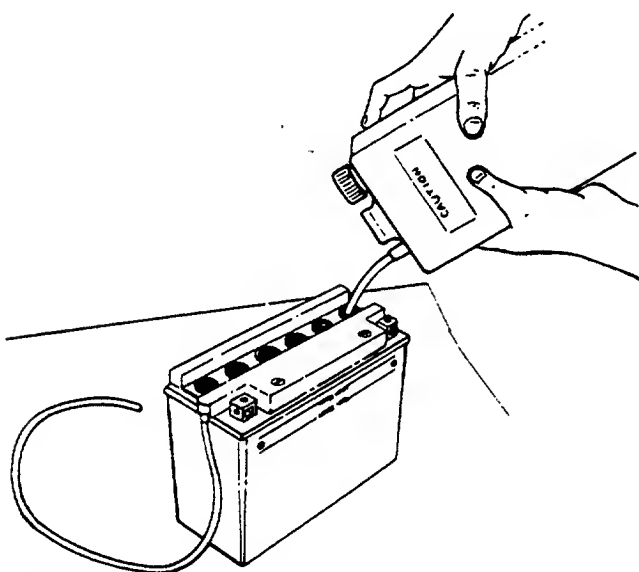

FIGURE 3.
6. Fill each battery cell slowly and carefully to the **UPPER LEVEL** line marked on battery. See figure 3. Use caution as the acid level will rise rapidly after the bottom of the cell is filled.